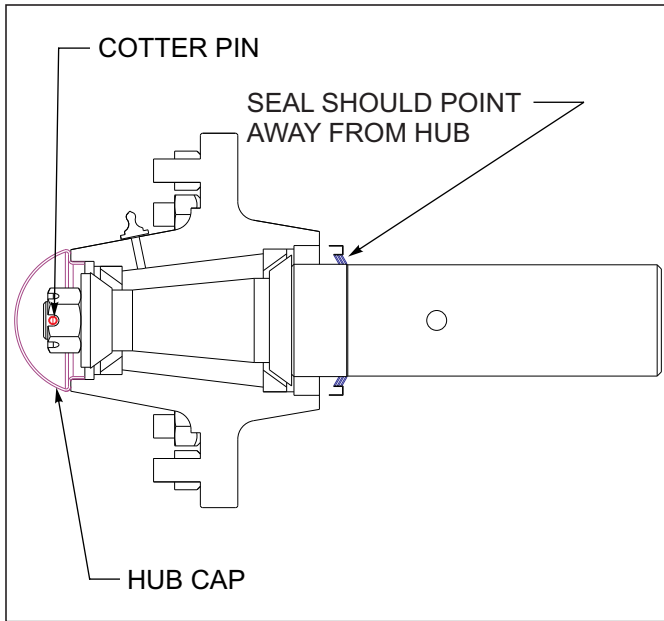

Figure 4-35: Triple Lip Seal
*The triple-lip seals should point away from the hub to keep contaminants out and allow grease to pass (*See Figure 4-35.*)*
11. Install a new cotter pin and replace the hub cap. (See Figure 4-35.)